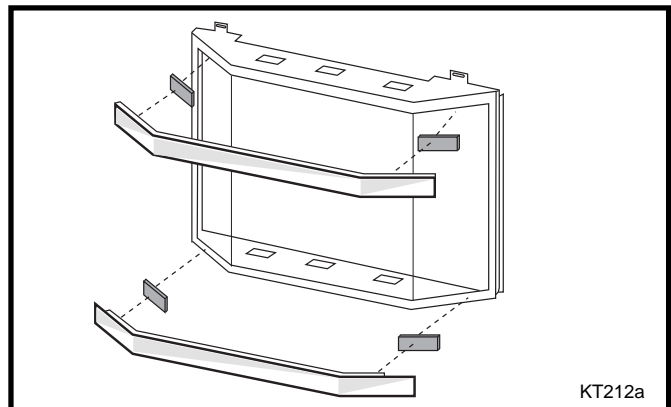

Fig. 53 Attach magnets and brass trim to the steel frame.
6. Install brass trim to the steel frame as shown in Figure 53. (Only for HESBTKP trim).
7. Install brass trim to the steel frame as shown in Figure 53.